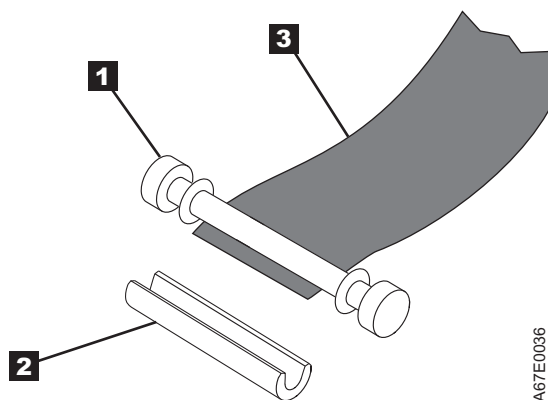

Figure 156. Removing the C-clip from the leader pin. Use your fingers to push the C-clip from the leader pin.
5. On the leader pin (**1** in Figure 156), locate the open side of the C-clip **2**. The C-clip is a small black part that secures the tape **3** to the pin.